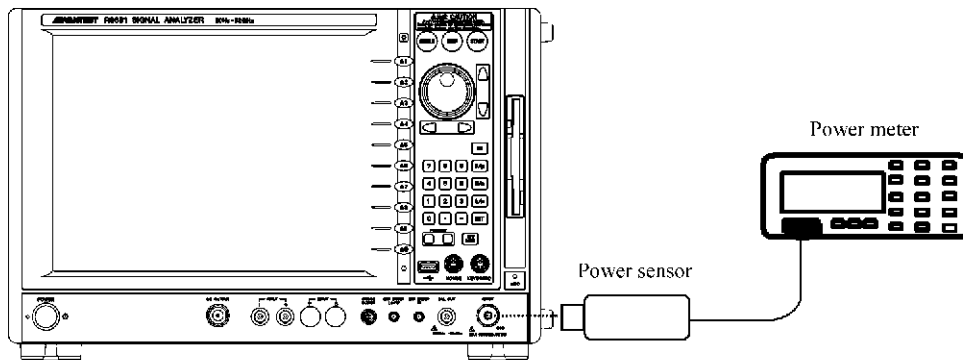

Figure 8-29 Verification Connection Diagram of the ALC Hold ADJ Accuracy
2. Connect the instruments as shown in Figure 8-29.